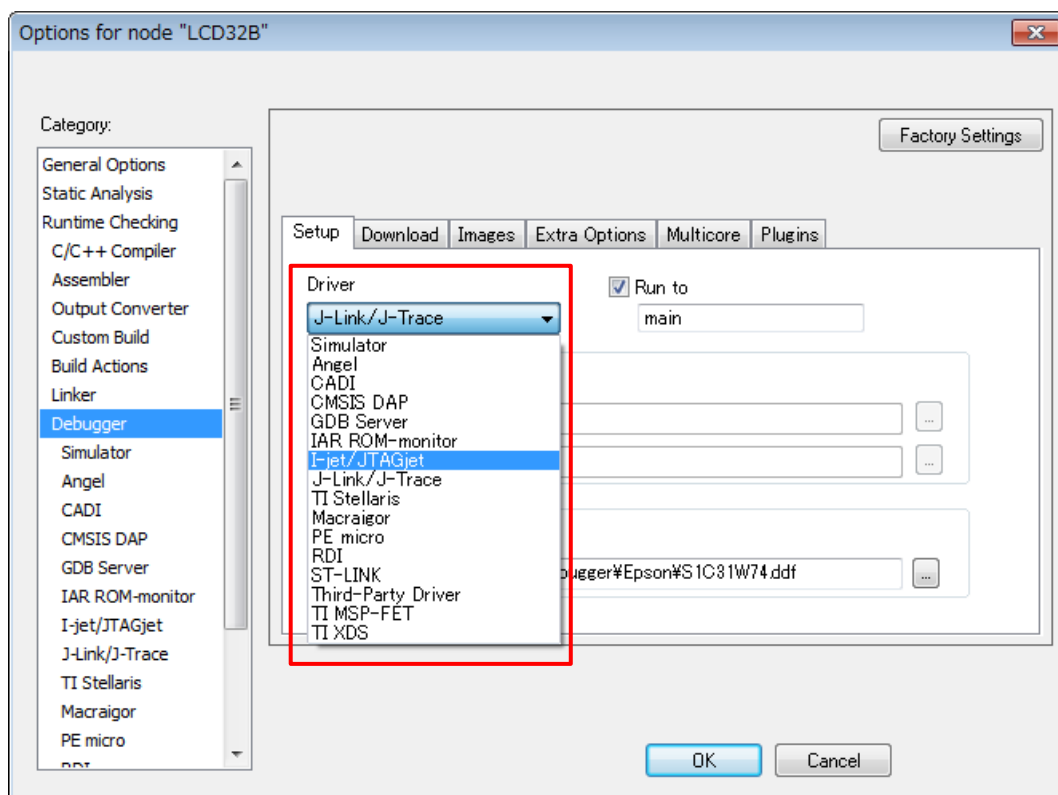

Figure 2.3.4.1 Debug Probe Setting
- (1) Select the [Project] > [Option] in the IAR EWARM menu.
- (2) Select the [Debugger] in the [Category] list on the [Options for node “{project}”] dialog (Figure 2.3.4.1).
- (3) Select the [Setting] tab, and then select the debug probe in the [Driver] drop-down list as shown below (Figure 2.3.4.1).